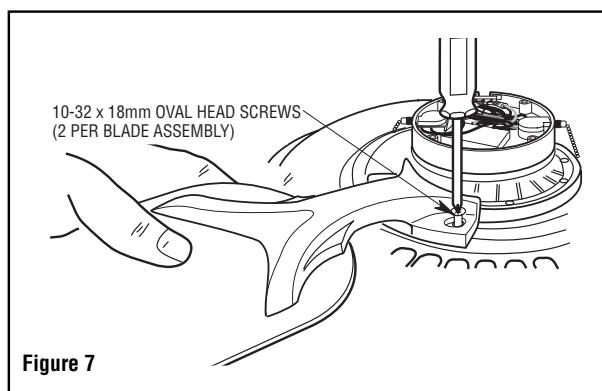

Figure 7
13. Attach one blade assembly to the motor hub using two 10-32 x 18mm oval head screws (supplied) (Figure 7). Do not tighten completely at this time. Install remaining blade assemblies in the same way. Gently snug all flange screws to the motor hub, working around the hub in a clockwise sequence. Next, securely tighten all flange screws, again working in a clockwise sequence. Failure to follow this procedure could result in fan wobble. This completes the blade installation.